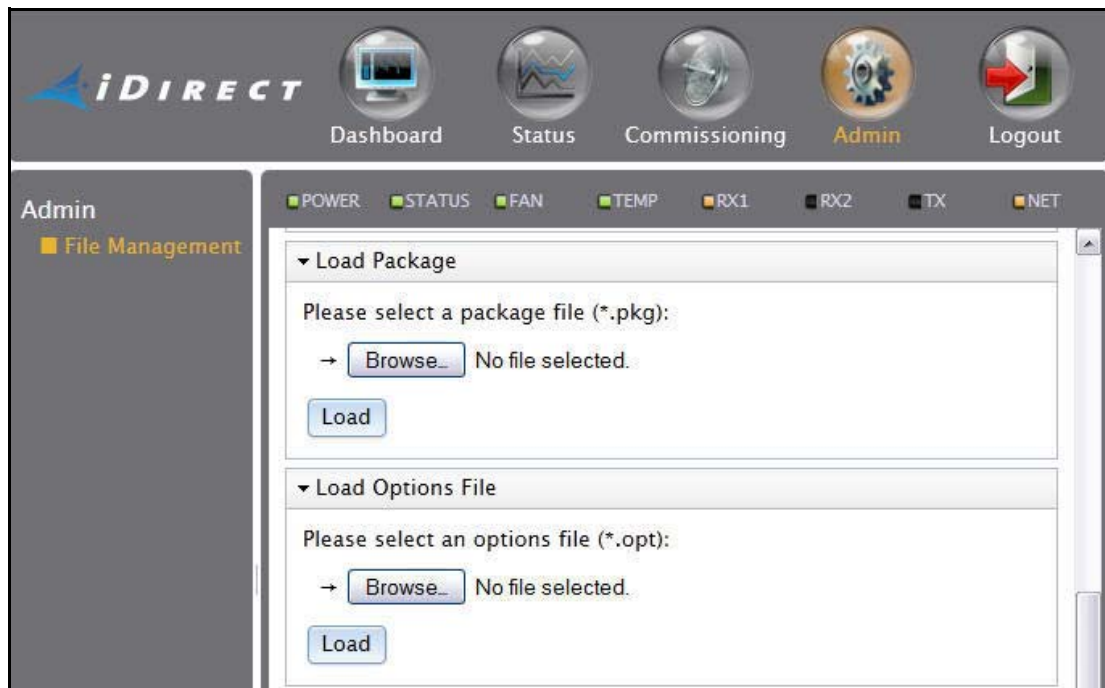

Figure 30. Web iSite File Management Page: Load Sections
1. In the top navigation bar in Web iSite, click the Admin button. The File Management page appears by default (Figure 30). If not, click the File Management link on the left.